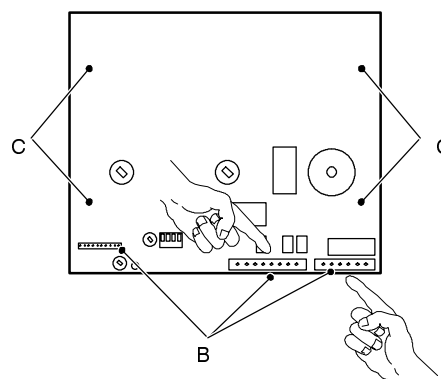

fig. 47
- 3 Delicately flex the hooks indicated in fig. 47 and disconnect the connectors B
- 4 Unscrew the four screws C and remove the circuit (fig. 47);